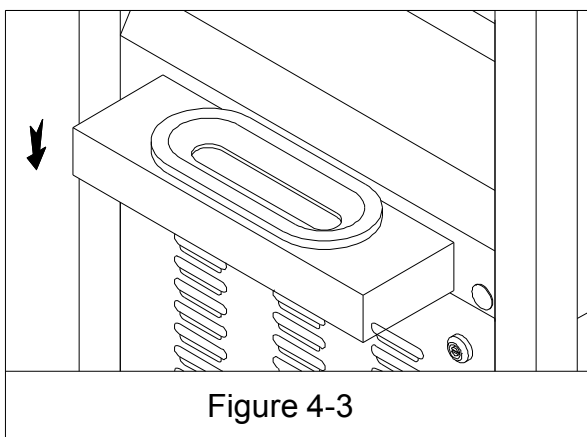

Figure 4-3
- E. Install the drip pan on the machine (Figure 4-3).